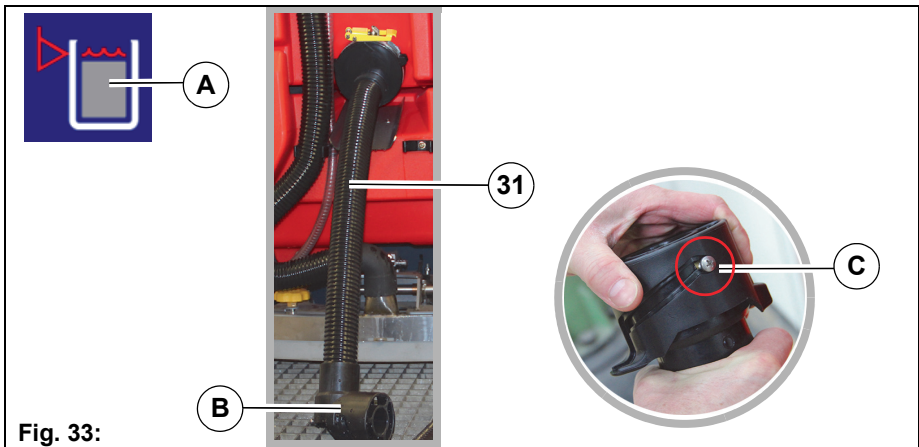

Fig. 33:
Clean the waste water tank **Fig. 34-38** daily or as required. When the symbol *Waste water tank full* **Fig. 33-A** appears in the display panel and an acoustic warning signal is output, the suction functions are switched off and the waste water tank should be drained immediately.
4. Remove the drain hose from the holder, open the drain valve **Fig. 33-A** and drain the waste water tank via the drain.